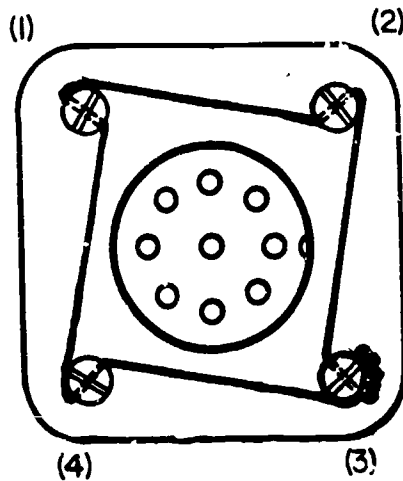

Figure 2. Top View of Connector Plug.
2. Refer to figure 2 for correct installation of the wire and perform the following steps.
f. Bend the pigtail around the screw so that it looks like the wire in figure 2. This will help keep someone from snagging their hand on the safetywire.